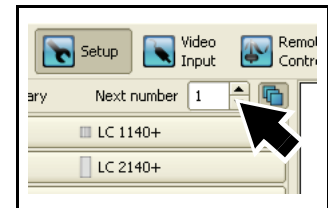

Figure 7: Next number
2. See Figure 7. Check that **Next number** (arrowed) is set to 1.